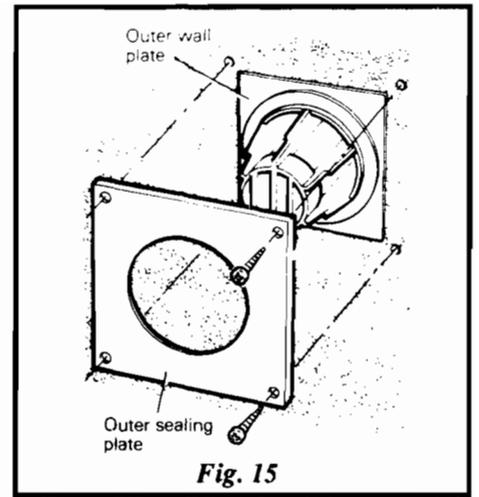

Fig. 15
14.14 Fit the outer sealing plate - see Fig. 15.